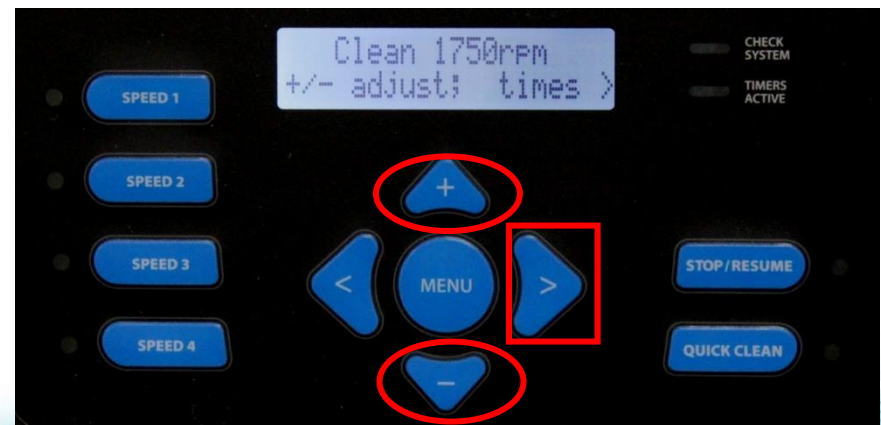

Figure 46
- This screen will allow you to adjust the speed setting from 600 RPM (17%) to 3450 RPM (100%) by pressing the  &  buttons (fig 46). Press the  button to continue.